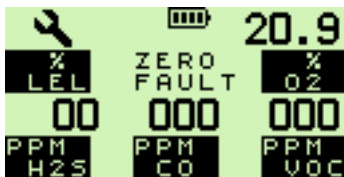

Fig. 3.10 Sensor Fault
3. If a “ZERO FAULT” message and a spanner symbol (not flashing) appears above gas type, as shown in Fig. 3.10, then the sensor requires replacement or an electrical fault exists.